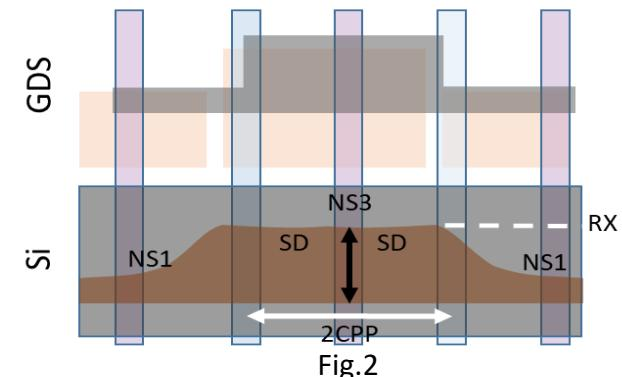

Fig.2
- **T-shape** : taller NS gets slower by shorter neighbor (Fig.2)